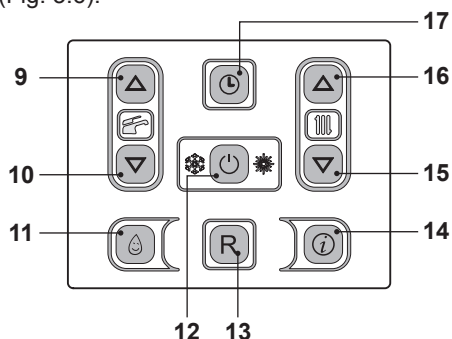

Fig. 3.5
In order to access the INFO mode, press key 14 (Fig. 3.5) the index **J00** and the val-
To scroll the values press 15 (reduce) and 16 (increase) keys. In order to exit the INFO mode, hold keys 12 and 16 (Fig. 3.5) pressed at the same time.
To reset normal boiler functioning, just press the 13 (Fig. 3.5) key.